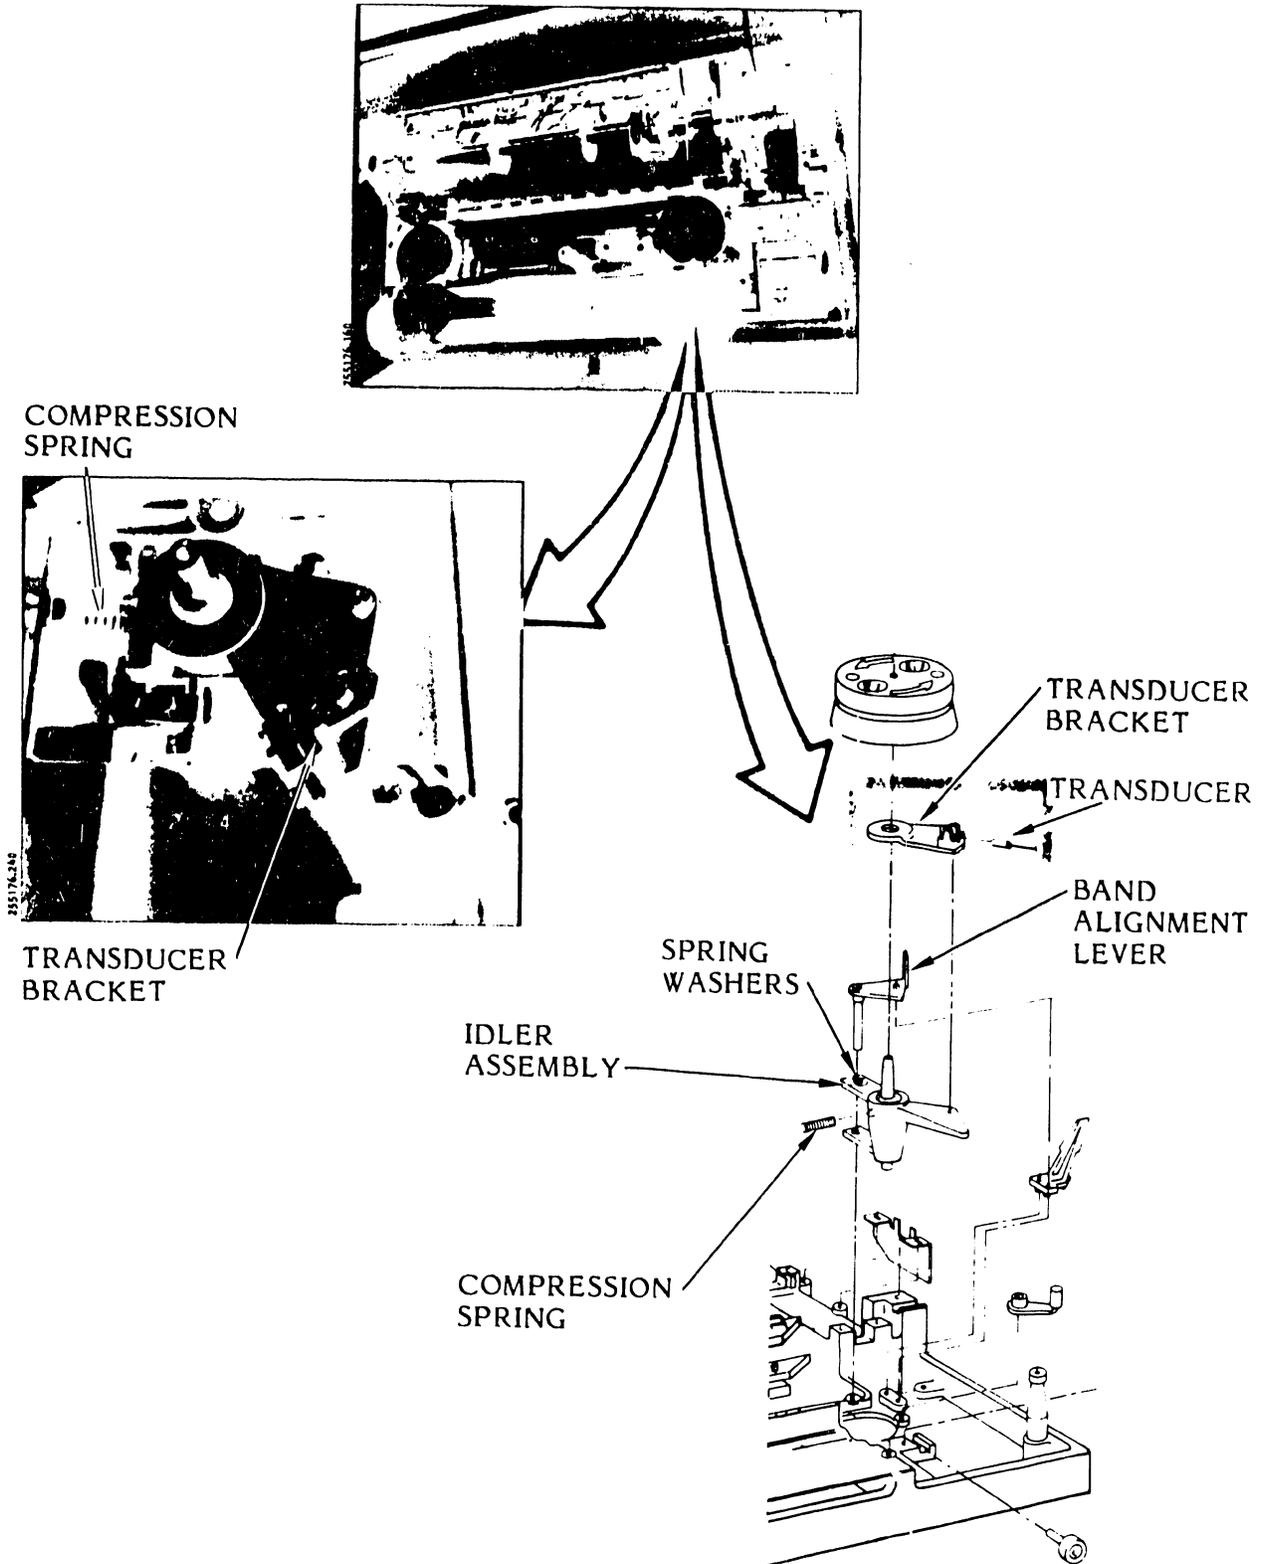

Figure 3-84. Band Idler Pulley/Shaft Assembly (O-Ring System) Removal/Installation
**3.7.14 Band Idler Pulley Shaft Assembly (O-Ring System) Removal/Installation (Figure 3-84)**